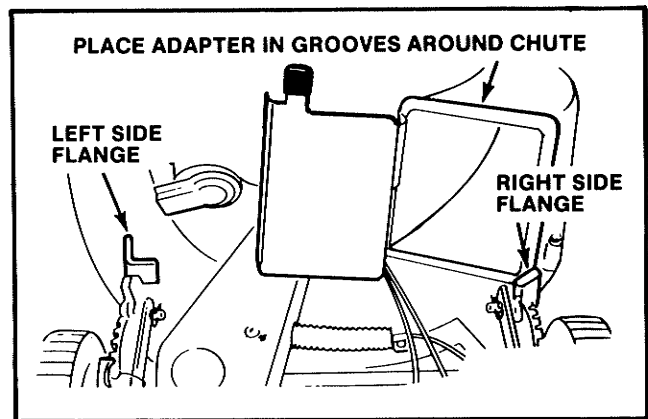

FIGURE 6
- Place the bag adapter over the grooves in the discharge chute. Slide adapter down until the adapter bottoms in the flanges on the mower deck. (Figure 6.)